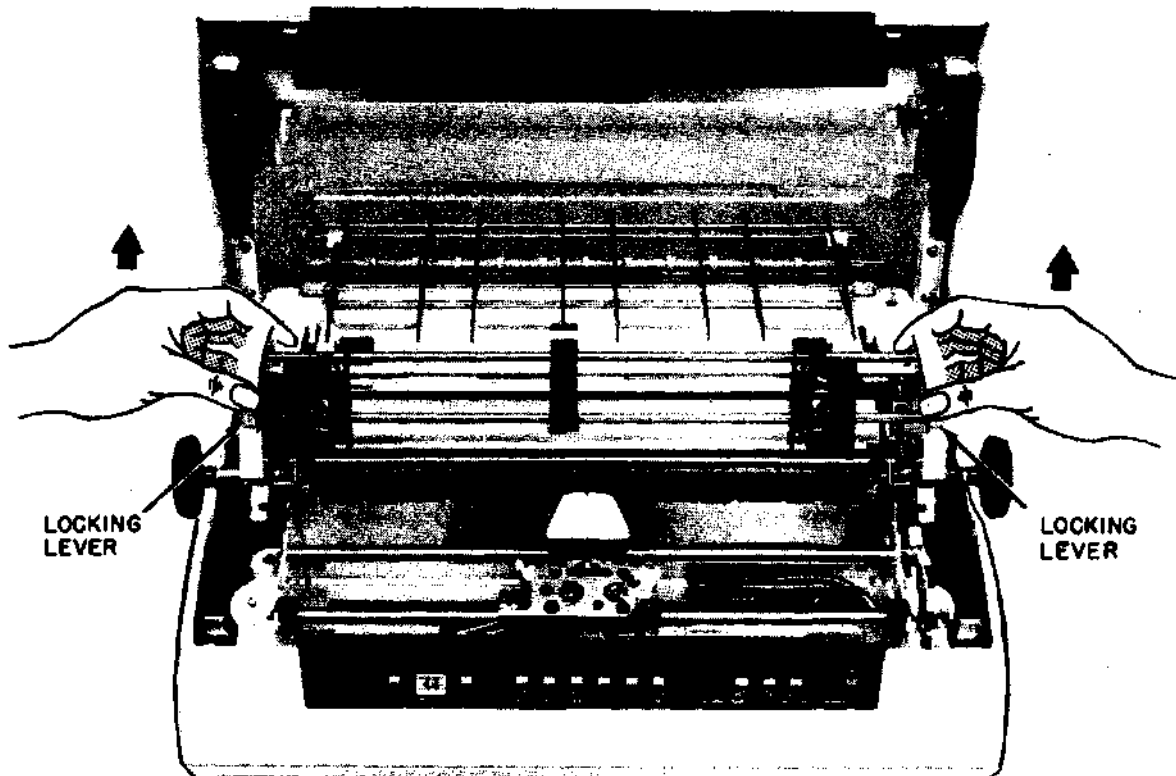

Figure 3-4 Forms-Tractor Assembly Removal
- c. Press the locking levers and raise the assembly upward and toward the rear of the printer to remove it (Figure 3-4).